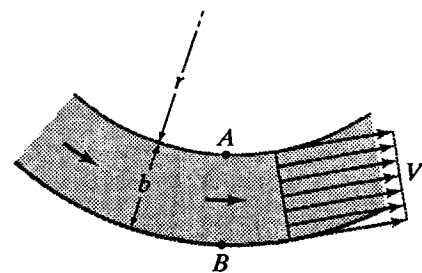

Figure X5.16.1
5.45 Using Fig. X5.16.1, which depicts a two-dimensional ideal flow in a vertical plane, find the pressure at B if the pressure at A is 32 kPa. Data are as follows:  $r = 3$  m,  $b = 1.2$  m,  $\gamma = 9.81$  kN/m $^3$ ,  $V = Q/A = 5$  m/s. Assume a parabolic velocity profile.